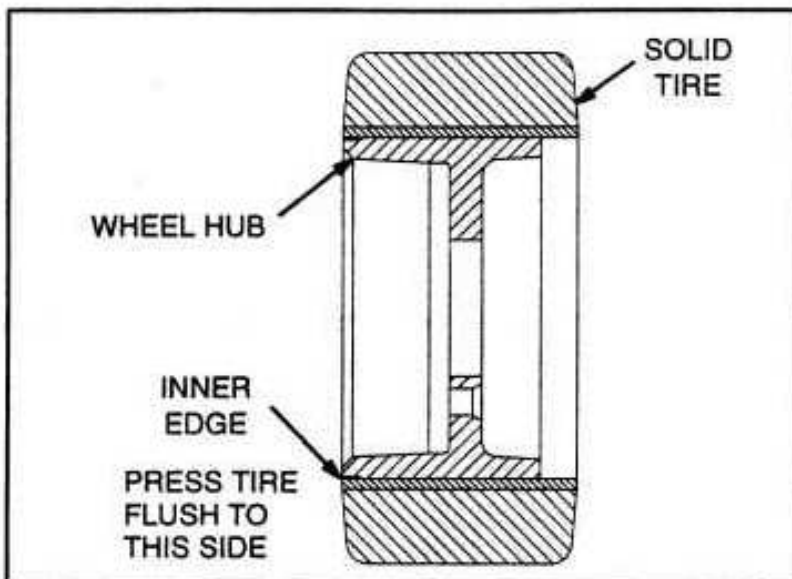
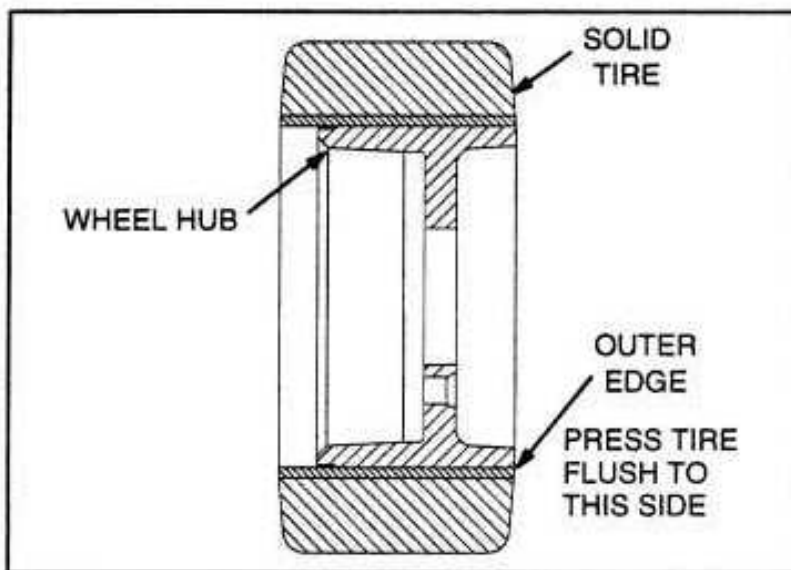

Figure 2-6 – 12×5.5 Solid Tire Pressed onto Wheel
Figure 2-7 – 13.5×5.5 Solid Tire Pressed onto Wheel
4. Carefully apply hydraulic pressure until the wheel hub is forced from the old tire into the new tire. The new tire, when properly seated, will be flush to the inner or outer edge of the wheel hub. See Figure 2-6 and Figure 2-7.